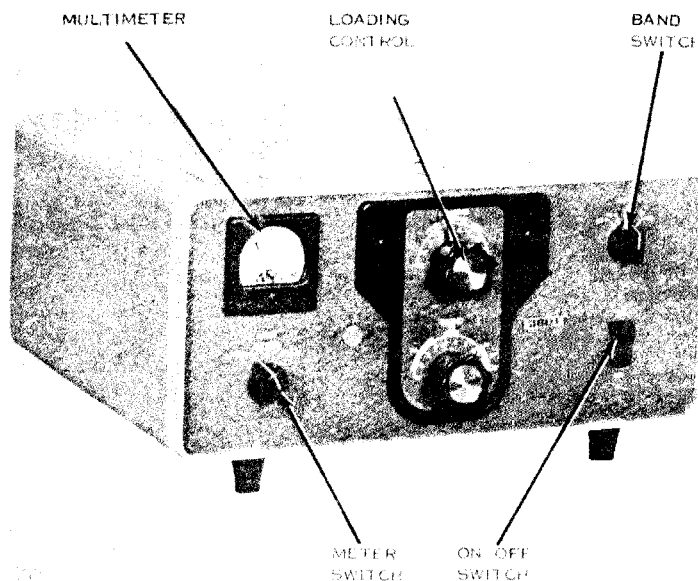

Figure 11-4. Collins 30L-1, operating controls.
b. Be sure the ON-OFF switch in the Collins 301-1 is in the OFF position (fig. 11-4).